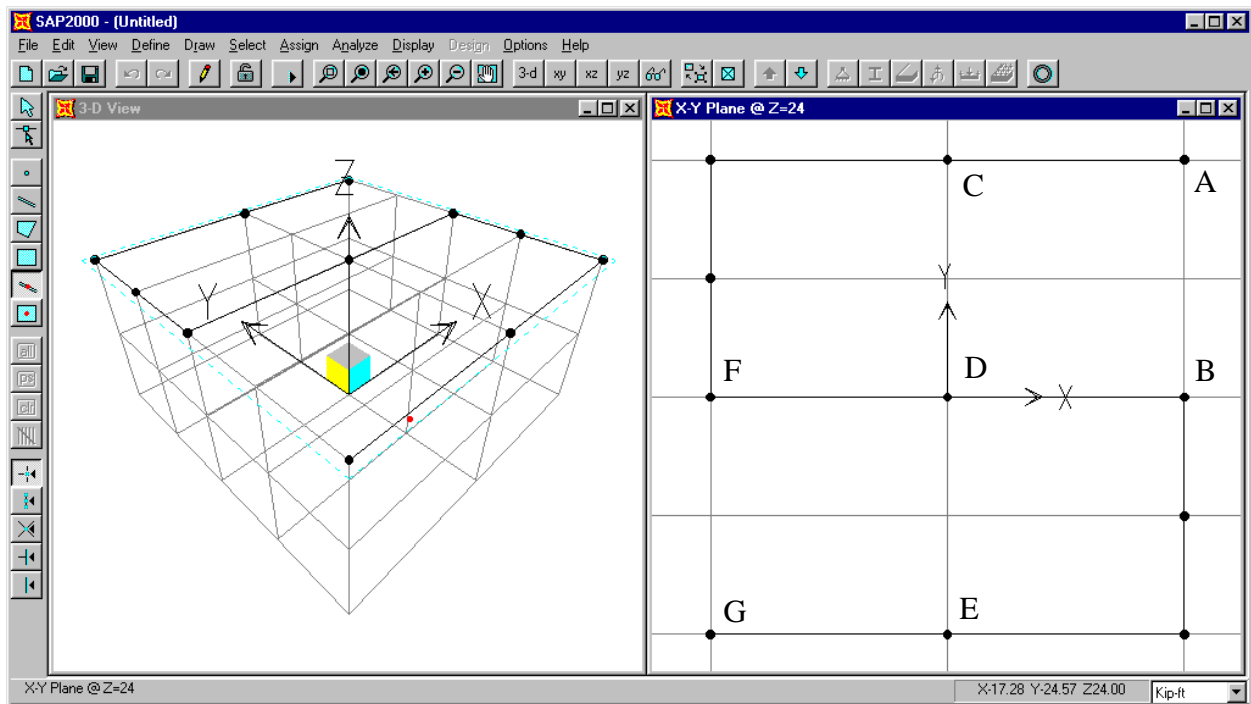
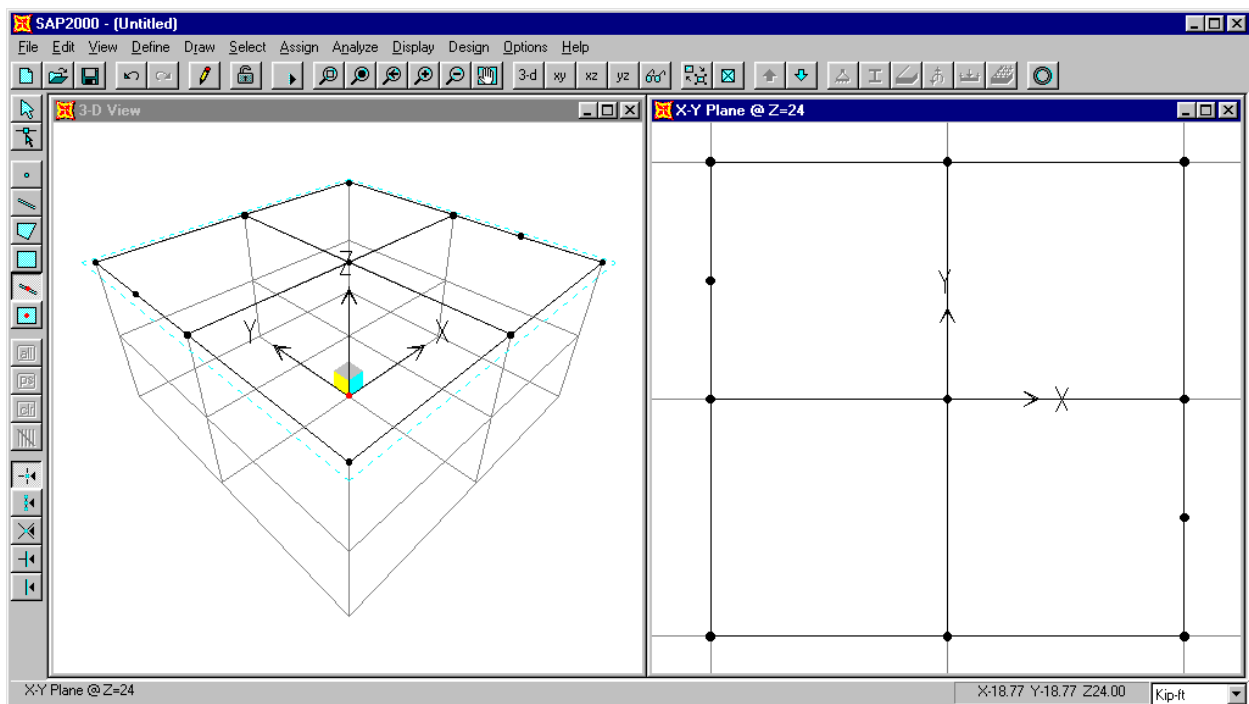

Figure C-10: Drawing Remaining Roof Level Beams
Figure C-11: Model After All Roof Level Beams Have Been Drawn
9. Make sure that the **Snap to Joints and Grid Points** button  on the side tool bar is depressed. Place the mouse pointer on the joint labeled “A” in Figure C-10 and click on the left mouse button. Note that when the mouse pointer is near the joint, it snaps to the joint, and a text box that says “Grid Intersection” appears. This is the effect of the **Snap to Joints and Grid Points** feature.
10. Place the mouse pointer near the joint labeled “B” in Figure C-10 and Click on the left mouse button to draw the roof beam element.
12. Place the mouse pointer on the joint labeled “C” in Figure C-10 and click on the left mouse button. Click in sequence on joints “D” and “E” and then press the Enter key to draw the next two roof beams.
13. We will now edit the grid lines so that we can use the **Quick Draw Frame Element** tool to enter the last roof beam that will span from point “F” to point “G” in Figure C-10.
17. Click on the grid line between points “F” and “G” in Figure C-10 to enter the last roof beam. The model now appears as shown in Figure C-11.